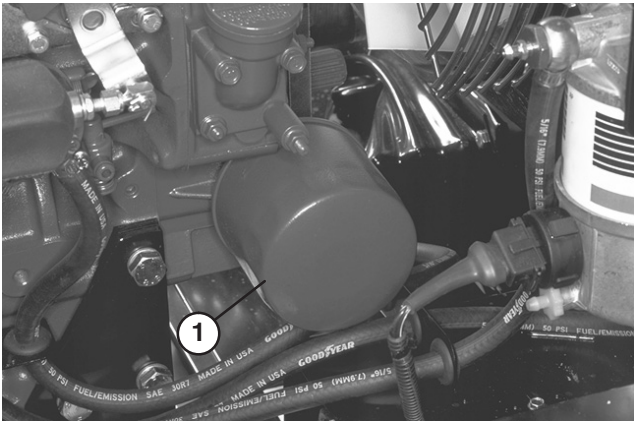

Figure 31
2. Remove oil filter (Fig. 31). Apply a light coat of clean oil to the new filter seal before screwing it on. **DO NOT OVER-TIGHTEN.**